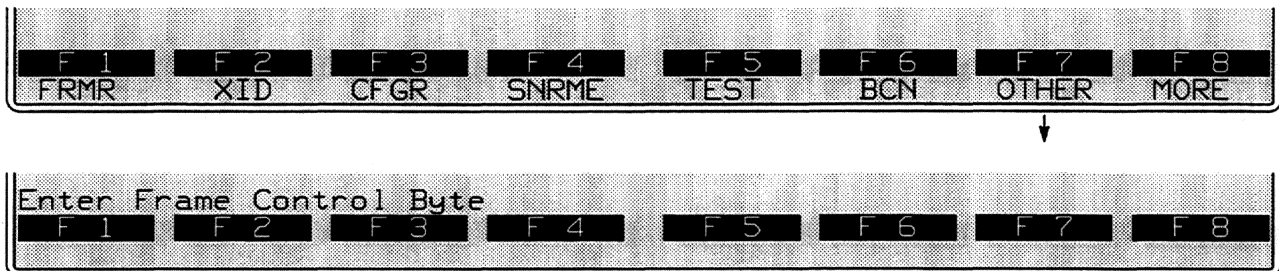

Figure 39-10 The hex value of any frame may be specified under OTHER.
4. *Other frames.* Any frame type may be entered as a hexadecimal value instead of by name. Press the softkey for OTHER. See Figure 39-10. Then enter the hex byte in the form of two alphanumerics. Here, for example, is a SNRM (with the P-bit set) entered as a hexadecimal: